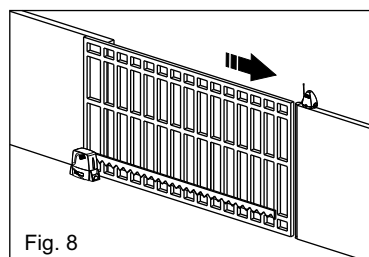

Fig. 8
10) Wait for the end of the closing of the leaf (Fig.8). The self-learning is done.